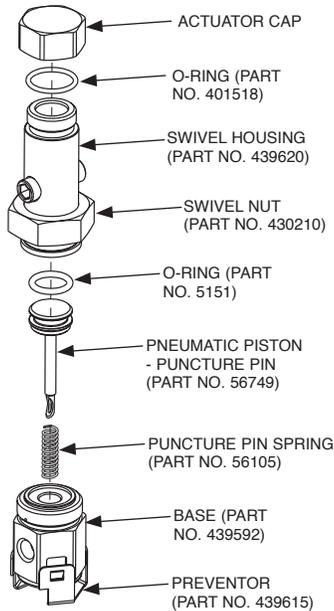

FIGURE 7-2
See Figure 7-2
See Figure 7-2 (Continued)
- Disassemble actuator and inspect for damage. Remove puncture pin spring and pull puncture pin out of body being careful not to bend puncture pin. Retain all parts for re-assembly. See Figure 7-2.